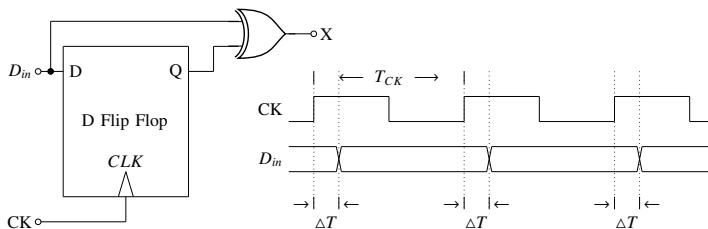

Fig. 5.25
25. In the circuit shown below, a positive edge-triggered D Flip-Flop is used for sampling input data D_{in} using clock CK . The XOR gate outputs 3.3 volts for logic HIGH and 0 volts for logic LOW levels. The data bit and clock periods are equal and the value of $\Delta T/T_{CK} = 0.15$, where the parameters ΔT and T_{CK} are shown in Fig. 5.25. Assume that the Flip-Flop and the XOR gate are ideal. If the probability of input data bit (D_{in}) transition in each clock period is 0.3, the average value (in volts, accurate to two decimal places) of the voltage at node X , is